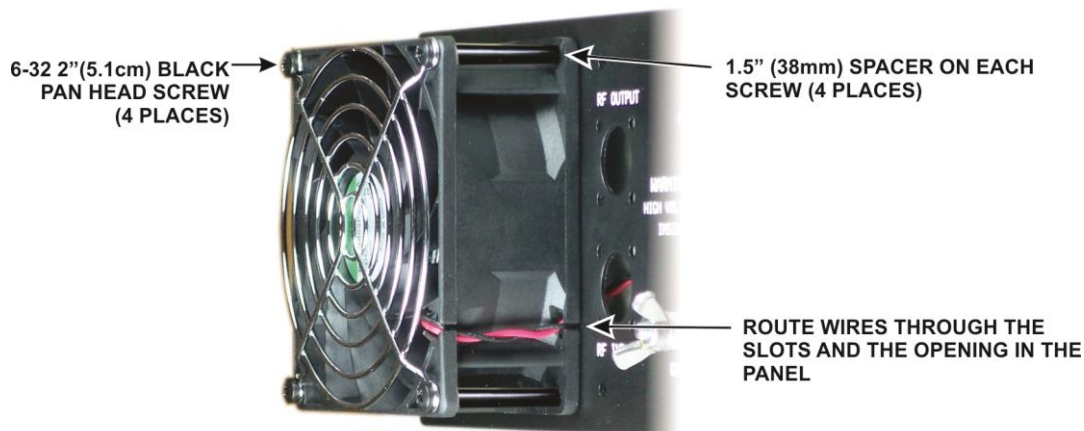

Figure 19. Installing the Fan
4. **Page 17, Figure 19:** Replace the figure with the following showing spacers placed on the mounting screws between the front and rear corner tabs on the fan housing.